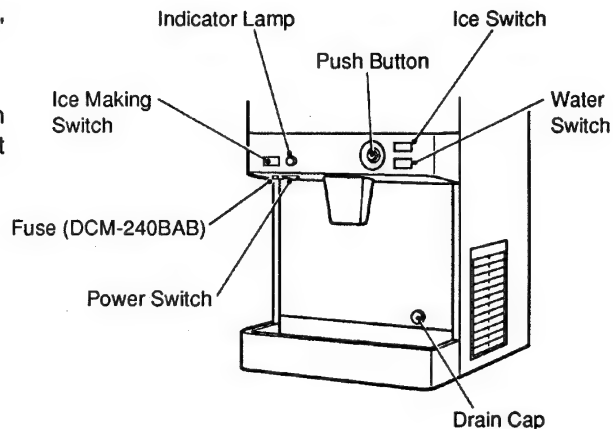

Fig. 1
- 5) Remove the Drain Cap, and drain the Reservoir and Freezer (Water System). See Fig. 1.